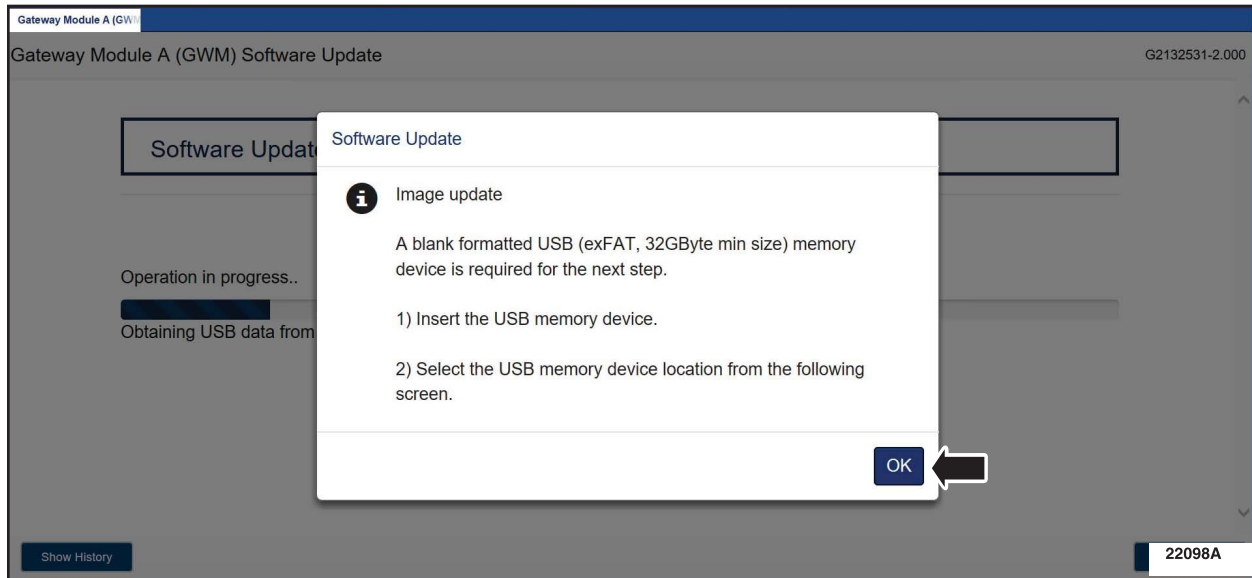

FIGURE 9
13. When prompted, connect the USB flash drive to the diagnostic scan tool and click the OK icon. See Figure 9.